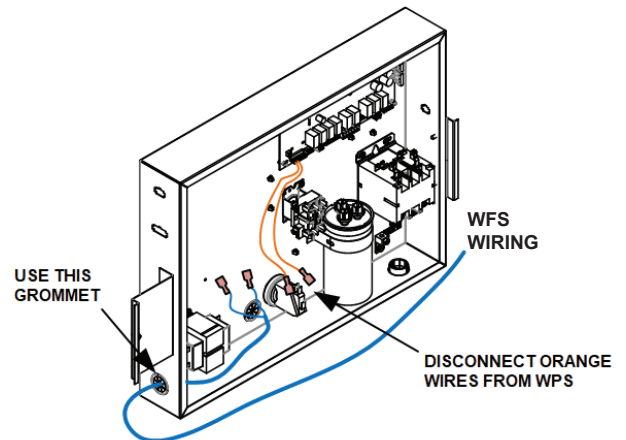

Figure 159. WFS Wire Routing into J-Box
7. Use the grommets in the control box to run wires from inside the corner post to the inside of the electrical junction box, using the grommets located next to the transformer. See **Figure 159**.
8. Locate the orange wires connected to the Water Pressure Switch (WPS). Proceed to disconnect the terminals from the WPS. See **Figure 159**.